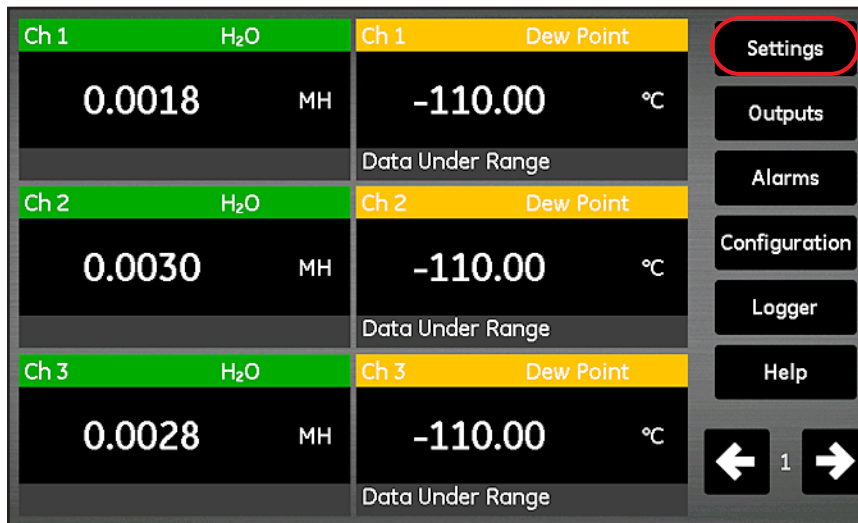

Figure 93: Settings Button on the Main Screen
- From the main screen, tap the **Settings** button (see *Figure 93* below).